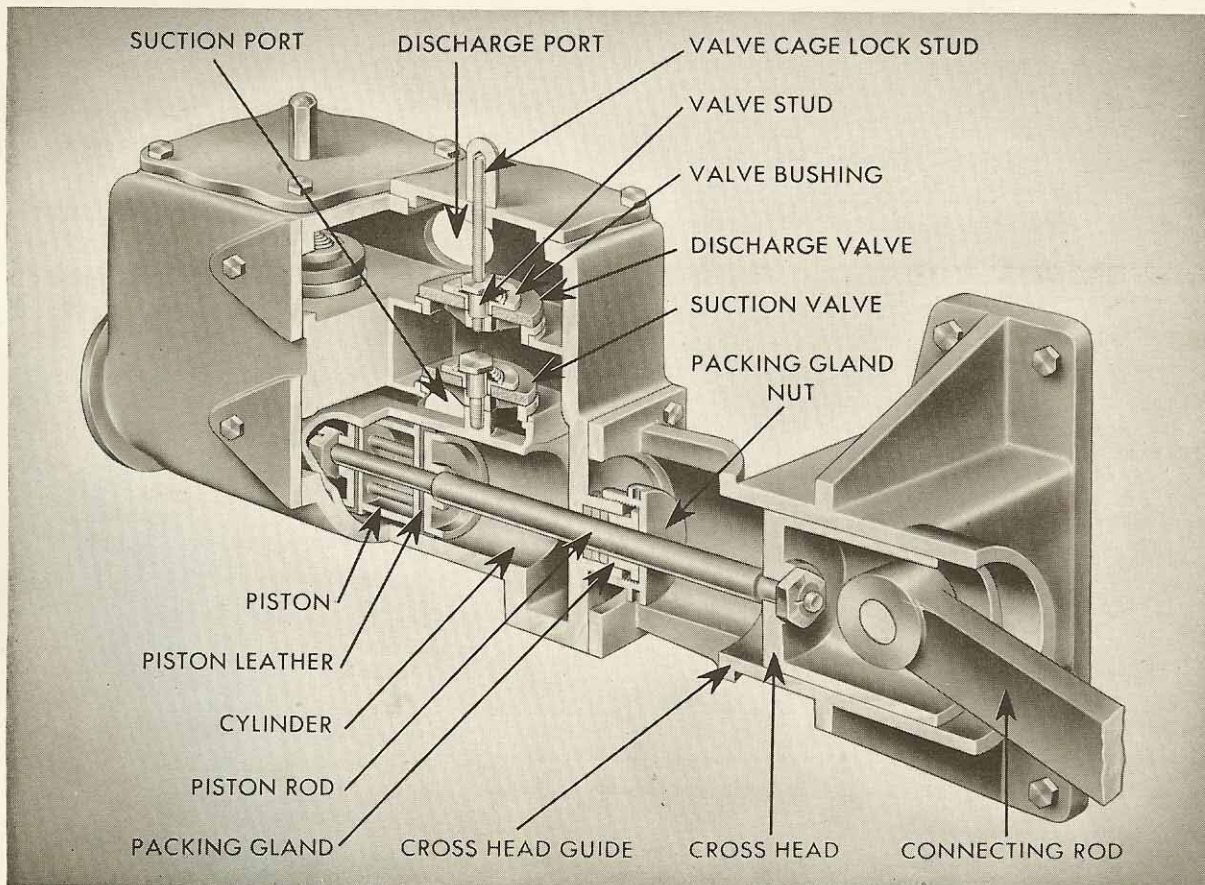

FIGURE 22-1
1. RECIPROCATING PUMP: This type of pump is shown in Figure 22-1. Most of the servicing of this pump can be done without its removal from the engine.